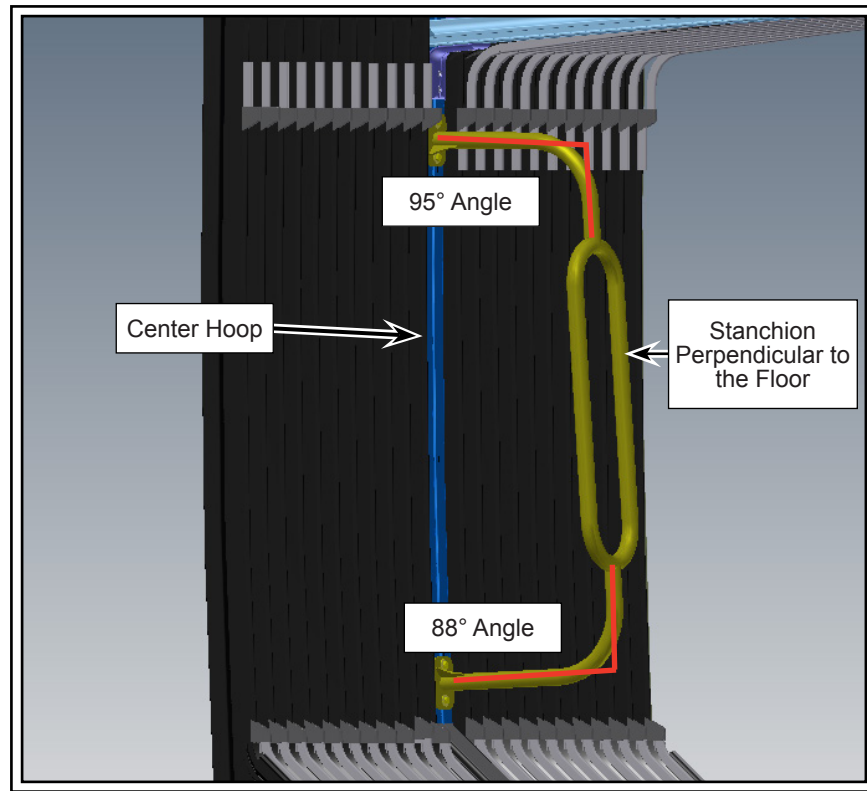

Figure 7 - Typical View of Stanchion Orientation
1.10. Ensure that the stanchion is vertical (perpendicular to the floor) (see Figure 7).